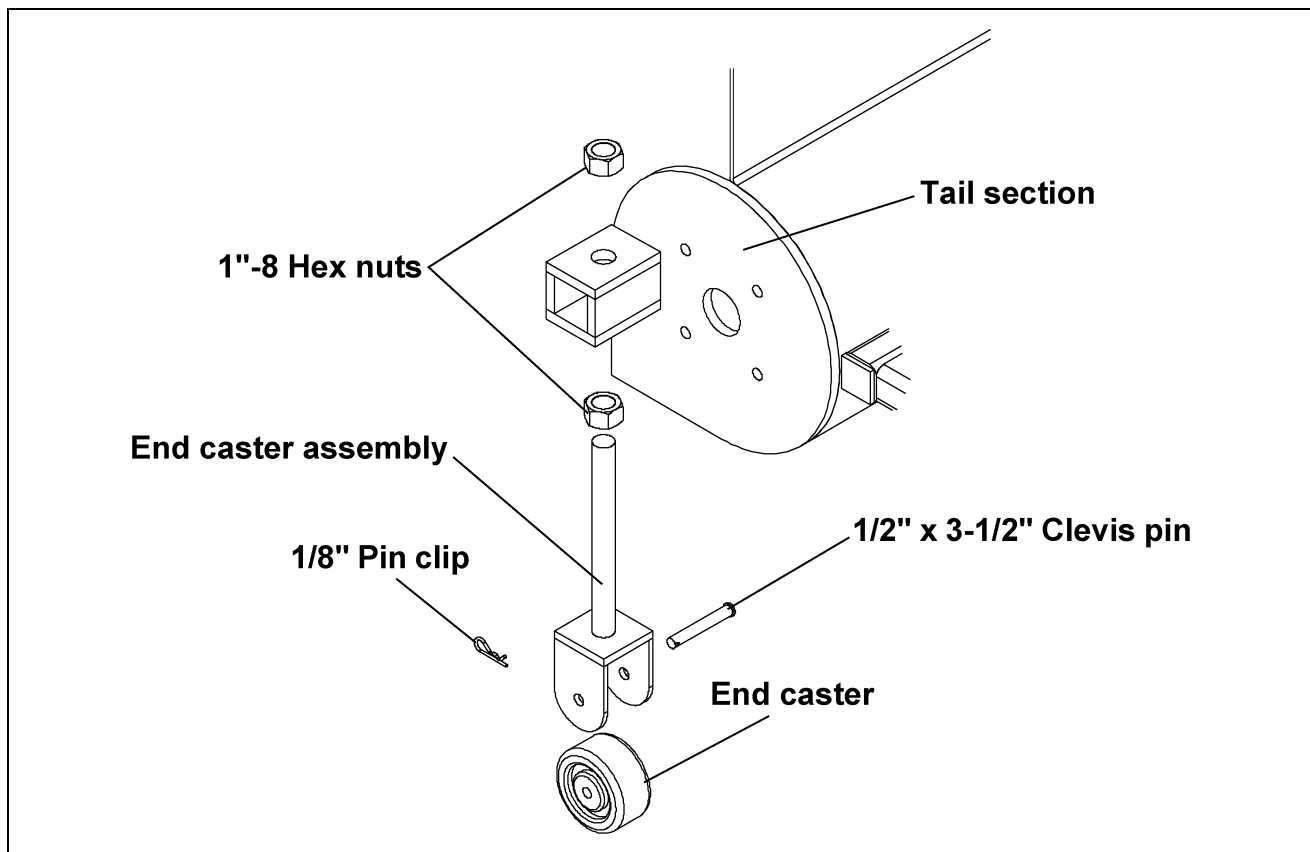

Figure 5A
B. **(All 16" models with extensions)** Assemble the end caster assembly using the 1/2" x 3-1/2" clevis pin and 1/8" pin clip as shown in Figure 5A.
C. Attach the end caster assembly to the end of the tail section using two (2) 1"-8 hex nuts.